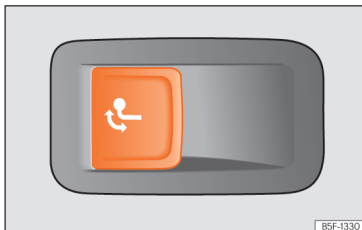

Fig. 204 Left side of the luggage compartment: button to unlock the tow hitch.
- Pull the »» Fig. 204 button briefly. The tow hook unlocks electrically and automatically turns outwards. The button's control lamp flashes.
- Pull the »» Fig. 204 button briefly. The tow hook unlocks electrically.
- Never press the button »» Fig. 204 when there is a trailer hooked to the vehicle or when a carrier system or other accessories are mounted on the tow hook.